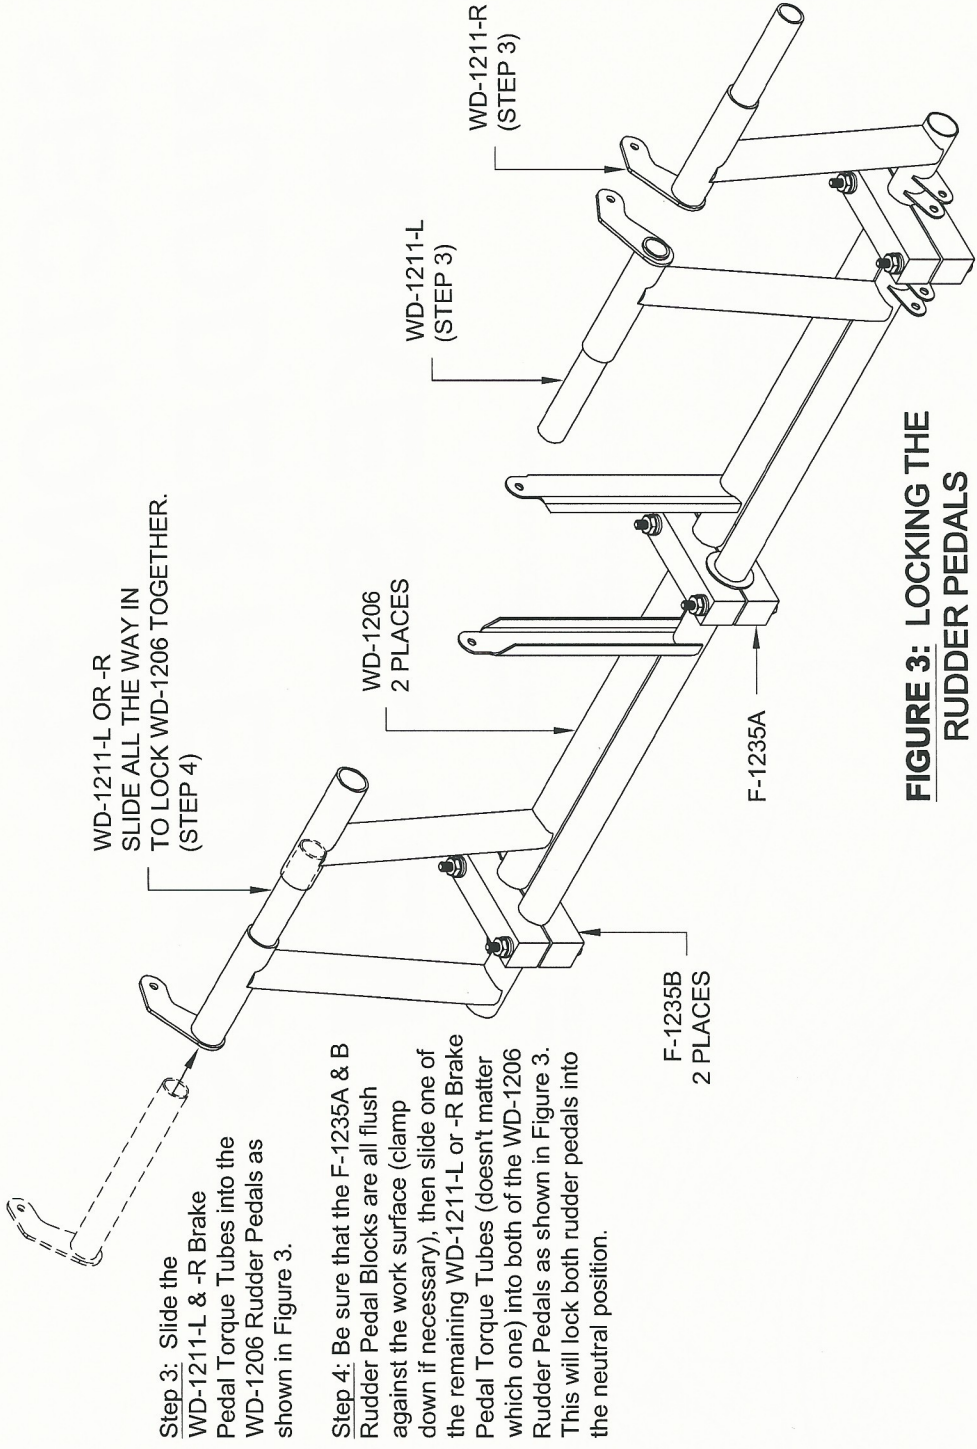
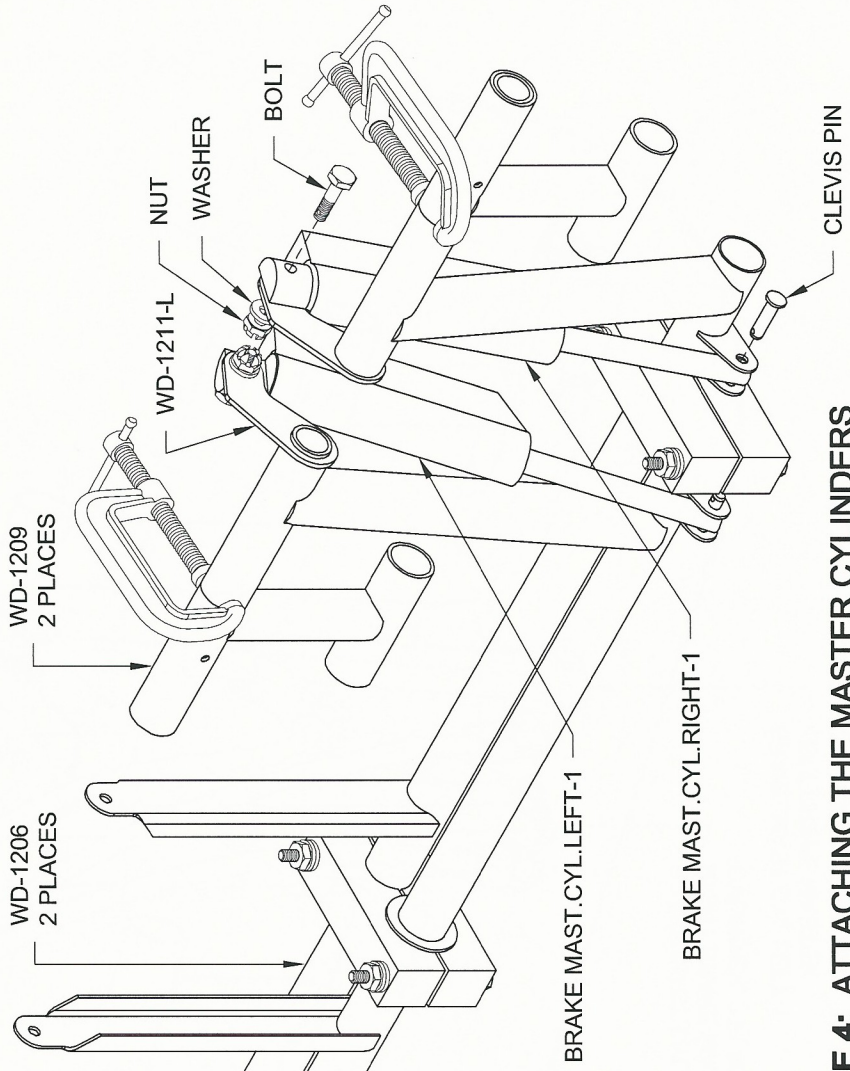

FIGURE 3: LOCKING THE RUDDER PEDALS
FIGURE 4: ATTACHING THE MASTER CYLINDERS
Step 3: Slide the WD-1211-L & -R Brake Pedal Torque Tubes into the WD-1206 Rudder Pedals as shown in Figure 3.
Step 4: Be sure that the F-1235A & B Rudder Pedal Blocks are all flush against the work surface (clamp down if necessary), then slide one of the remaining WD-1211-L or -R Brake Pedal Torque Tubes (doesn't matter which one) into both of the WD-1206 Rudder Pedals as shown in Figure 3. This will lock both rudder pedals into the neutral position.
Step 5: Temporarily attach the BRAKE MAST. CYL. RIGHT-1 & LEFT-1 Right and Left Brake Master Cylinders to the WD-1206 Rudder Pedals and WD-1211-R & -L Brake Pedal Torque Tubes as shown in Figure 4. The hardware shown in Figure 4 is called out on Page 27-03, Figure 3.
Step 6: Slide the WD-1209 Brake Pedals over the WD-1211-R & -L Brake Pedal Torque Tubes and against the WD-1206 Brake Pedals as shown in Figure 4. Use a square to make sure the brake pedals are vertical (or perpendicular to the work surface), then clamp the brake pedals to the rudder pedals as shown.